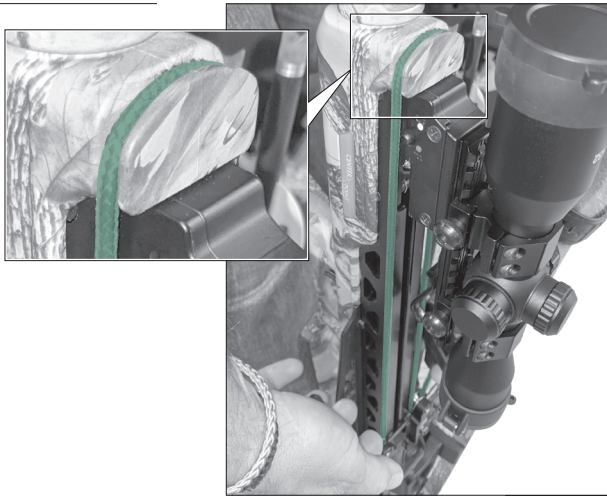

FIGURE 16
2. Place the center of the cocking rope in the rope groove (Fig. 16).
CAUTION: MAKE SURE THAT THE ROPE IS SEATED IN THE ROPE GROOVE ON THE STOCK, AS SHOWN IN FIG. 16. MAKE SURE THAT THE ROPE IS PARALLEL TO THE RAIL AND THE ROPE RUNS UNOBSTRUCTED FROM THE ROPE GROOVE TO THE PULLEY WHEEL ON THE SLED. FAILURE TO MAKE SURE THAT ROPE RUNS UNOBSTRUCTED, MAY CAUSE DAMAGE TO THE SLED, THE CROSSBOW AND/OR CAUSE INJURY TO THE USER.